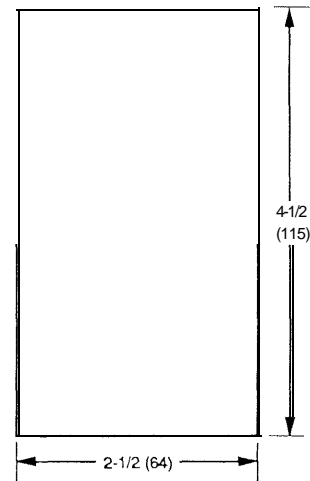

Fig. 7. Mounting Hole Dimensions in Inches (Millimeters).
This assembly is mounted through a hole cut into a hollow wall (Fig. 7 and 8).
1. Cut a hole in the wall (Fig. 7).